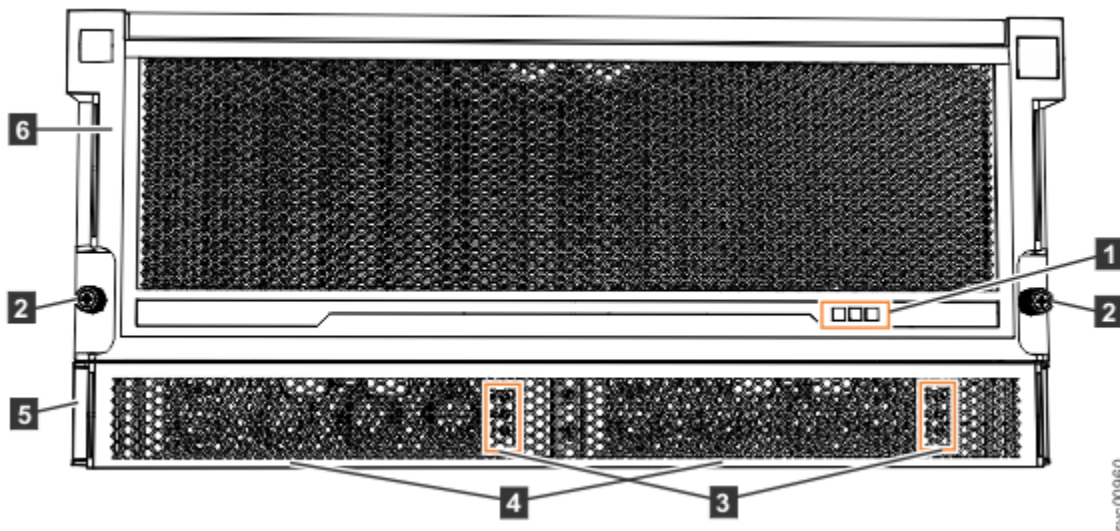

Figure 126. Features on the front of the 2076-92F expansion enclosure
- Before you connect the power cables to the rear of the enclosure, always check that the expansion enclosure is secured in the rack. If needed, tighten the thumbscrews on the front of the enclosure (2 in Figure 126 on page 112) to ensure that the enclosure drawer does not roll open.
The 2076-92F expansion enclosure has two power supply units (PSUs) that are accessible from the front of the enclosure (4 in Figure 126 on page 112). As the figure also shows, the PSUs are covered by the 1U fascia (5).